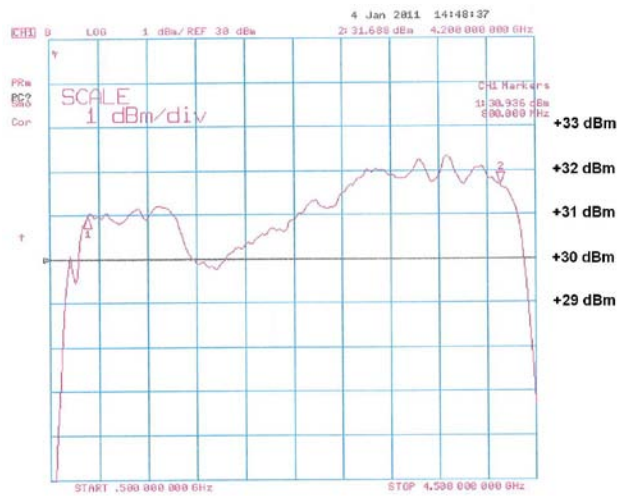
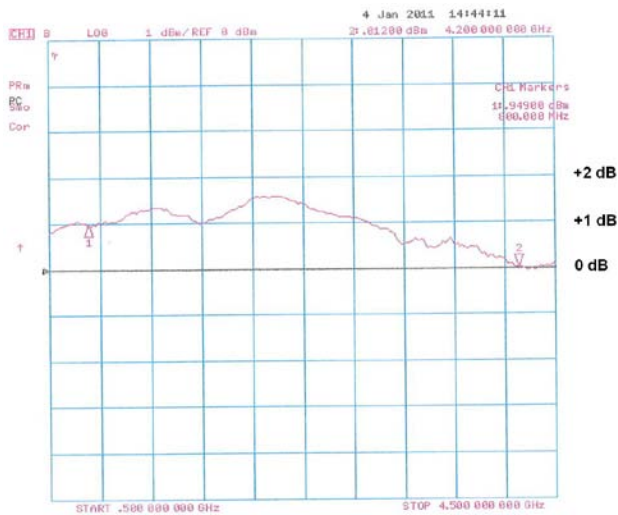

Figure 4-10. Typical A2 Driver Amplifier Response
Figure 4-11. Typical A1 Preamplifier Response
NOTE: The A2 Driver amplifier, and the A1 Preamplifier's response may differ considerably, particularly in flatness, from the typical response shown in Figure 4-10, Figure 4-11 and Figure 4-12.
9. The typical response for the A2 Driver amplifier is shown in Figure 4-10.
10. The typical response for the A1 Preamplifier (at maximum gain setting) is shown in Figure 4-11.